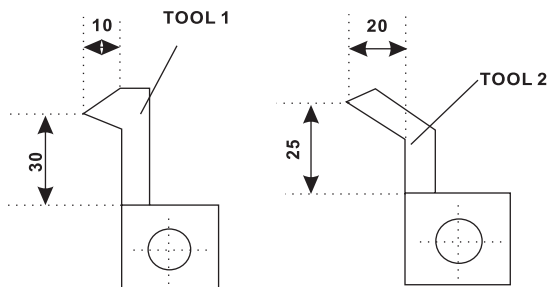

Figure 6-1
2. According to the size of TOOL and datum TOOL, determine the position of TOOL relative to zero of absolute coordinate and datum tool. As Figure 6-1, the relative size of TOOL 2 is as follows X axis $25-30=-5$, Z axis $20-10=10$.